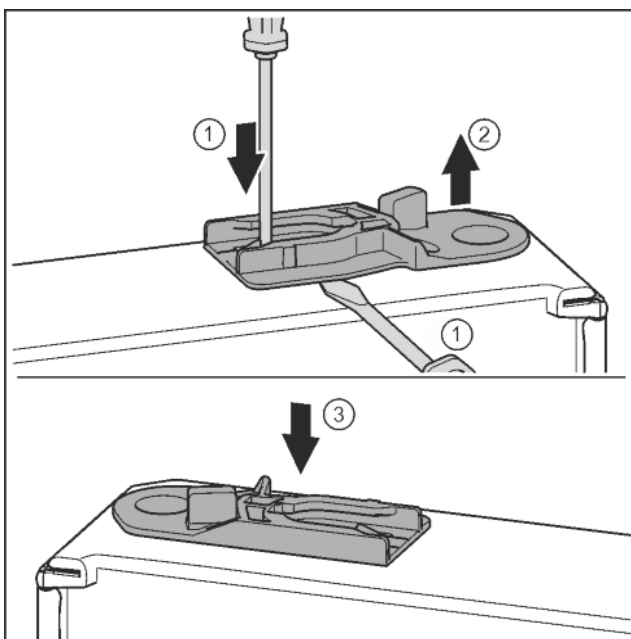

Fig. 32
- ▶ Pull out the guide bush: Press the tab with a slotted screwdriver and, at the same time, insert the slotted screwdriver under the guide bush. *Fig. 32 (1, 2)*
- ▶ Slide the guide bush in the scope of supply to the other side of the housing. *Fig. 32 (3)*